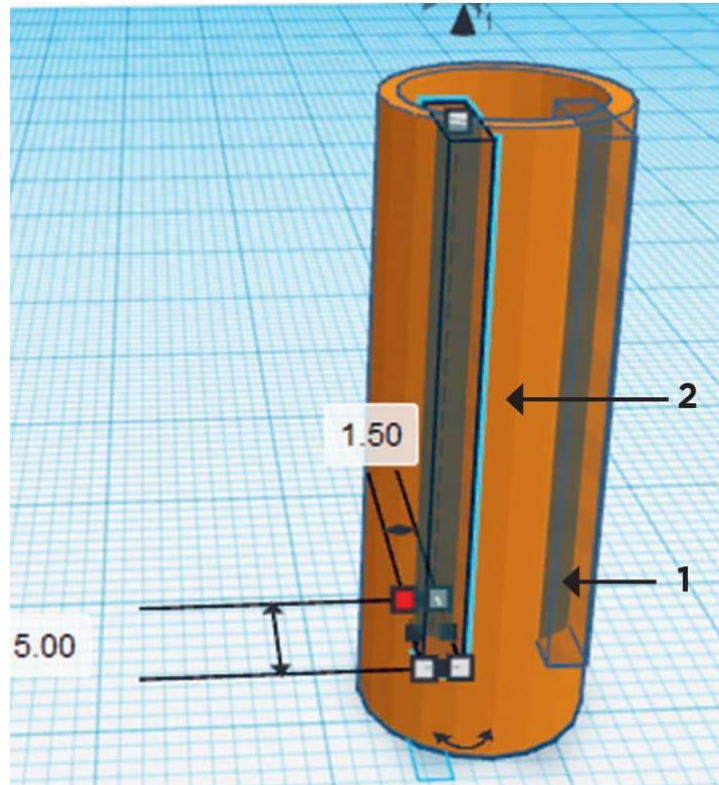

FIG. 4: Make an inner tube with notches and a button strip.
5. The button is mounted on an inner tube that slides in the head casing. This inner tube is 1 mm smaller than the inner diameter of the head casing and about 25 mm long. We add two notches to it spaced 5 mm apart; this forms a thin strip called button strip. In fig. 4, arrow 1 identifies the notches, and arrow 2 identifies the resetting button strip. The height of the inner tube is about 5 mm taller than that of the head casing.